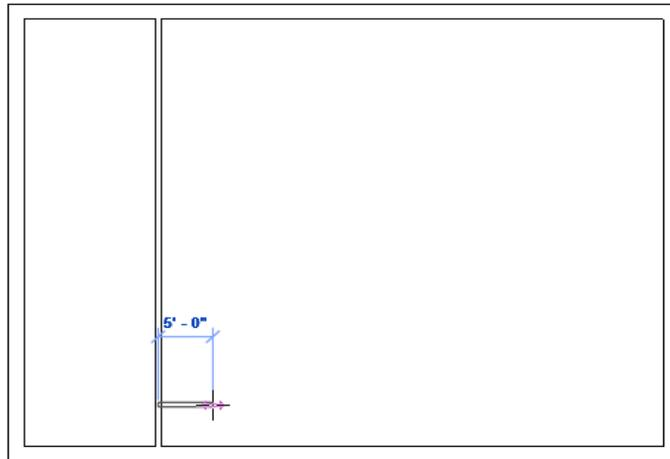

*Figure 3-81 Entering the value in the edit box*
1. To sketch the interior wall, move the cursor to the upper left corner of the exterior wall and then move the cursor horizontally toward the right. Enter **13'(3962 mm)** in the edit box as shown in Figure 3-81, when the temporary dimension and the intersection object snap appears. Now, press ENTER; the start point of the interior wall segment is specified on the upper horizontal exterior wall.